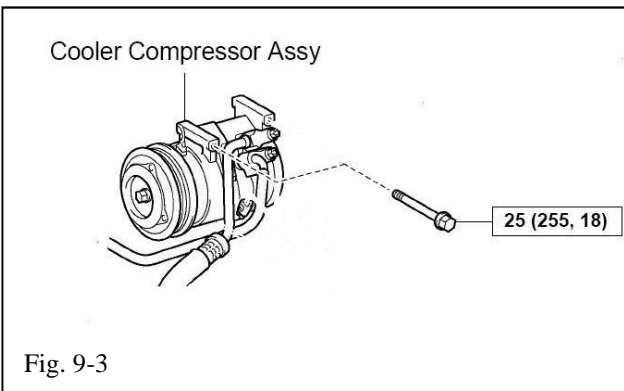

Fig. 9-3
- (b) Remove the top/forward AC compressor mounting bolt (Fig. 9-3).